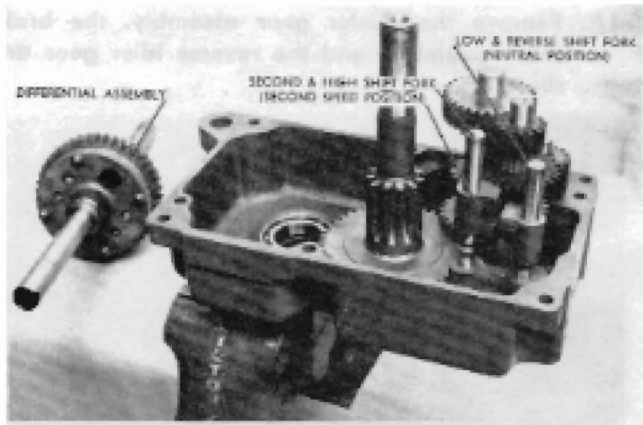

FIGURE 4
9. Lift out the axle and differential assembly. Figure 4. Note: If only the differential is to be overhauled the transmission need not be further disassembled. See Differential Overhaul Section.
10. Shift the 2nd and high shift fork assembly up into the 2nd speed position. See Figure 4.